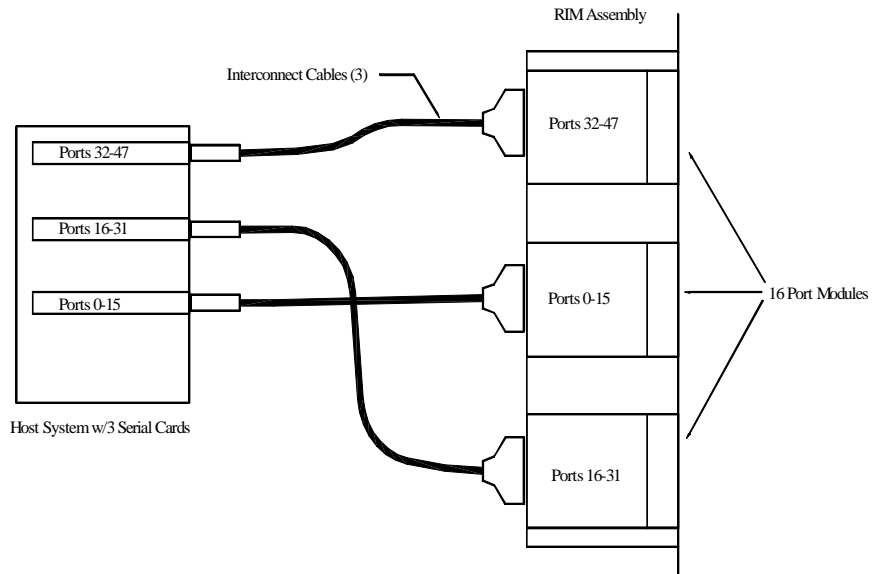

Figure 8. Cables Swapped
5. If the port still fails, the problem is related to either the IM-16 or the serial controller card. To ascertain which component is at fault, exchange the cables as shown in Figure 8.